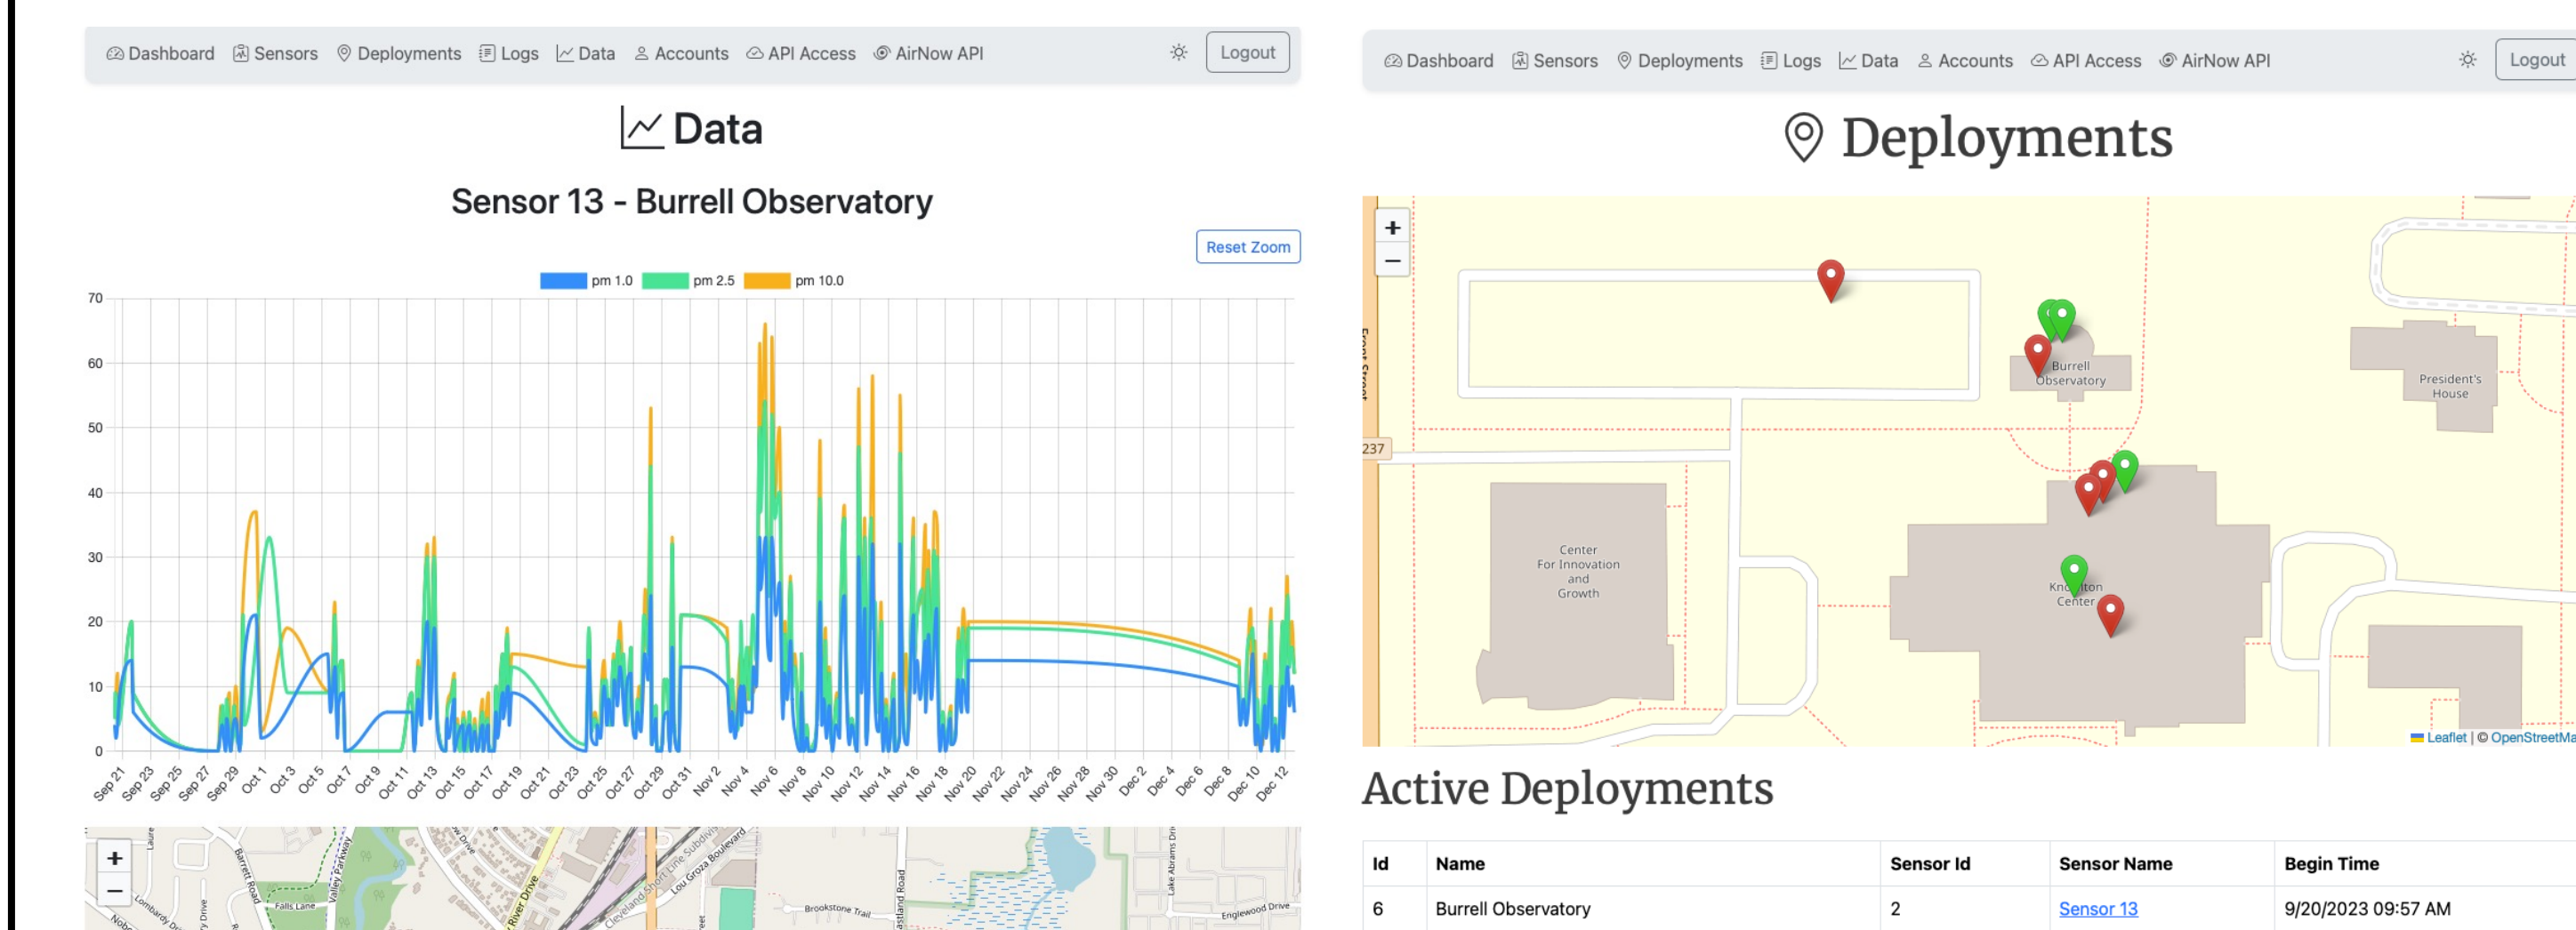

Figure 2 – Screenshots of web dashboard showing test deployment of sensors and current deployments
- Created web services and web dashboard to receive and display data (Figure 2)